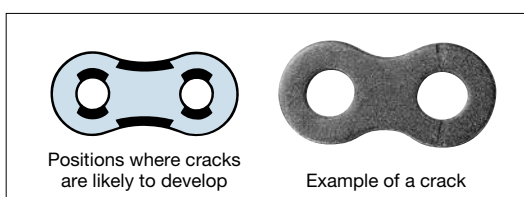

Fig. 25 Cracks on the link plates
- 2-2. Usually, a crack develops at the edge of a hole or at the side of the link plate, as shown in Fig. 25. The presence of cracks should be checked carefully. Fatigue breakage progresses little by little, so it can be noticed with close attention.